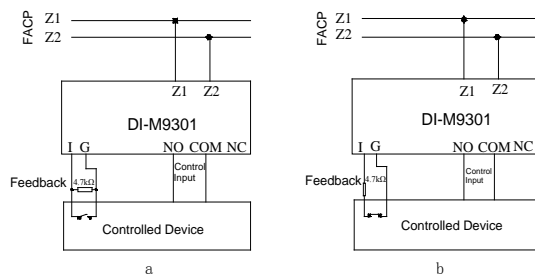

Fig. 6
- ✧ Connection of the module to field devices with normally open dry contact is shown in Fig. 6(line detection is provided by the controlled device).